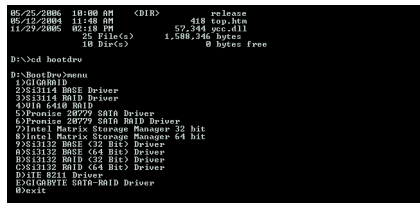
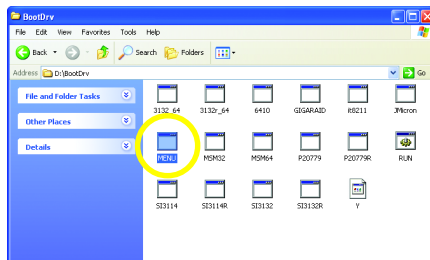

Figure 12
Figure 13
Step 2: When the controller menu (Figure 12) appears, remove the startup disk and insert the blank formatted disk. Select the controller driver by pressing the corresponding letter from the menu. For example, from the menu in Figure 12, press 7 to select **Intel Matrix Storage Manager 32 bit** for Windows operating system^(Note 2). Your system will then automatically zip and transfer this driver file to the floppy disk. Press 0 to exit when finished.
Use an alternative system and insert the GIGABYTE motherboard driver CD-ROM. From the CD-ROM drive folder, double click the **MENU.exe** file in the **BootDrv** folder (Figure 13). A command prompt window will open similar to that in Figure 12.